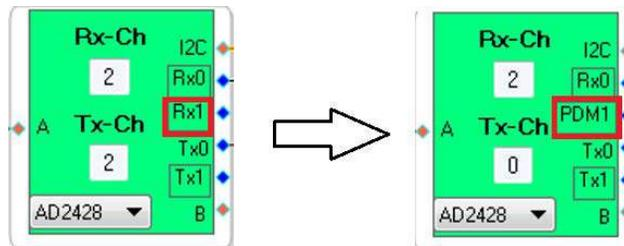

Figure 3. Changing AD2428W Pin Function from DRX1 to PDM1
5. The AD2428W DRX0/IO5 and DRX1/IO6 pins are multiplexed to support either I²S/TDM receive functionality (default) or PDM input (PDM0 and PDM1, respectively). Ensure that PDM functionality is enabled using the SigmaStudio GUI, as shown in Figure 3.